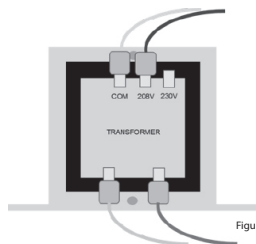

Figure 2: Transformer wiring for 208V
3. Remove the connection cable from the right-hand connector (labelled 230 V) and connect the cable to the centre connector (labelled 208 V), as shown in Figure 2 below.